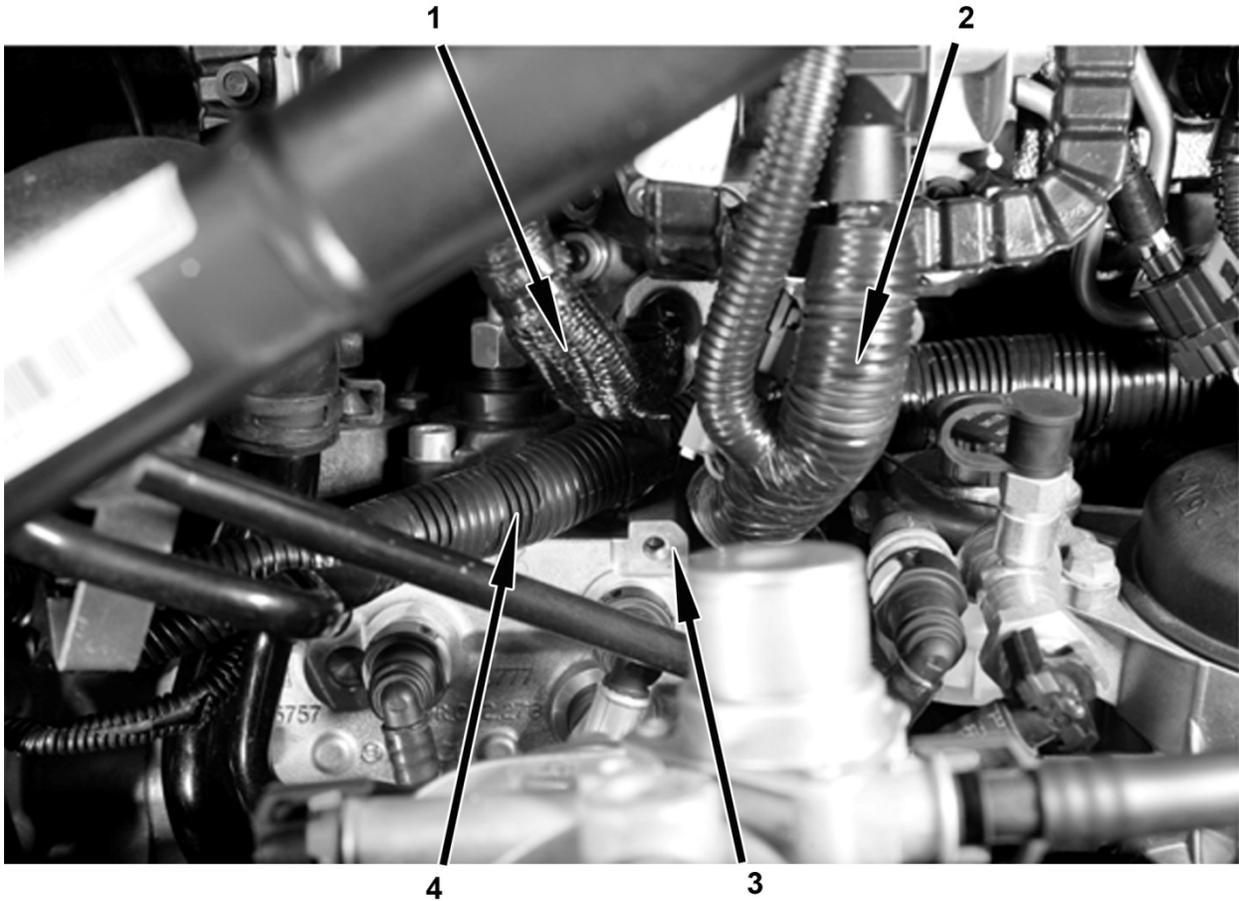

Figure 24
11. Insert a second cable tie strap (306132C1) through Bosch strain-relief ECM bracket and around chassis-to-ECM harness and tighten cable tie strap enough to lift harnesses off pump boss (Figure 24).